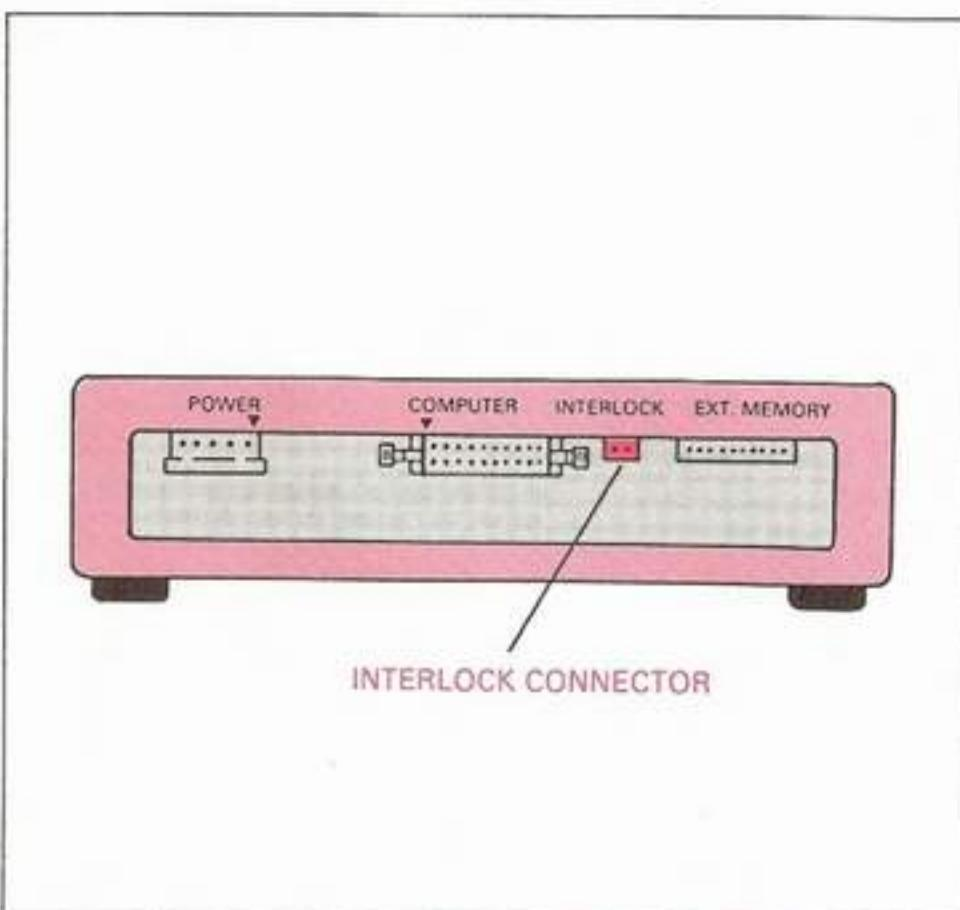

Fig. 85: The Pro-Arm's Interlock Connector
- _____ a. While checking the system installation and interfacing, plug one of the wired, 2-pin connectors (supplied) into the Pro-Arm's Interlock Connector shown in Fig. 85. Make sure that the two wires are not touching each other.